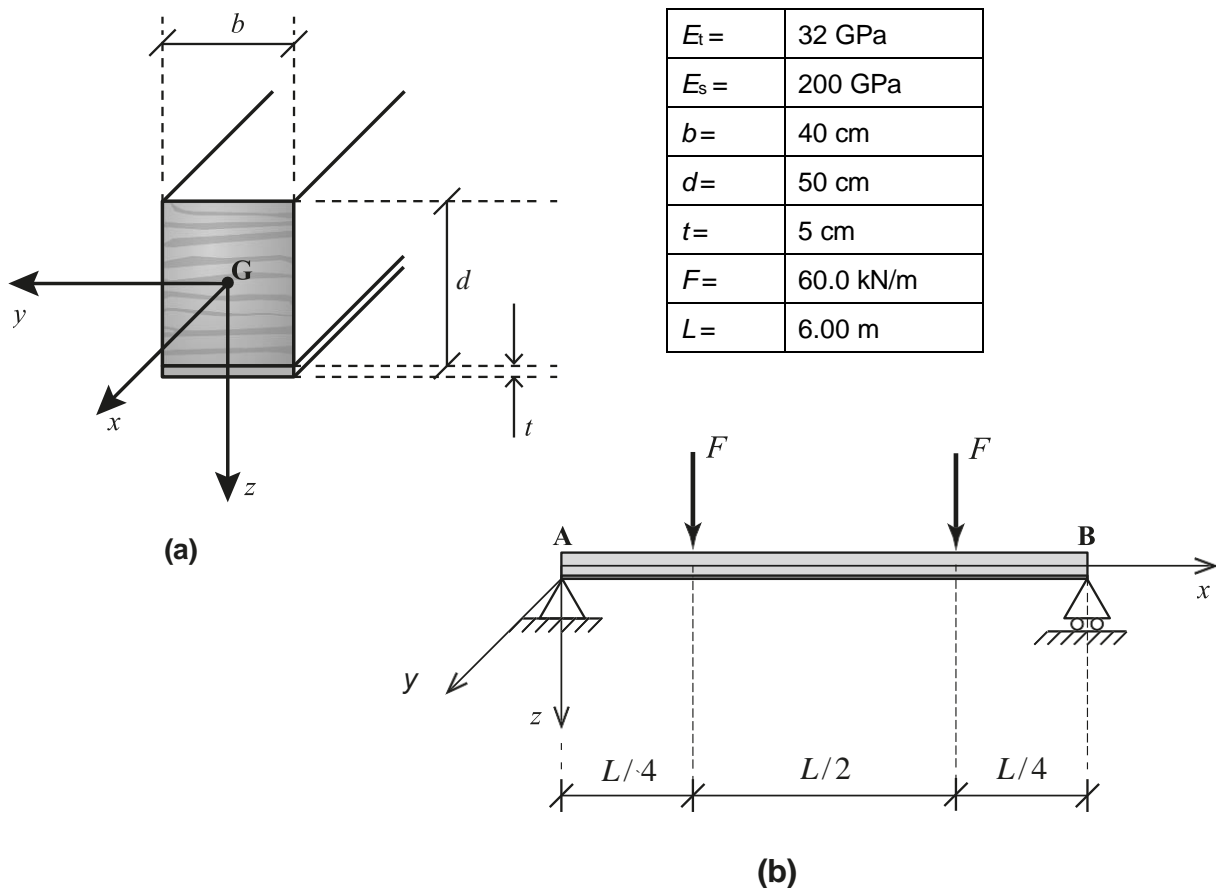

Figure Q6 – (a) Steel-timber composite cross section and (b) Simply supported beam.
6. A timber cross-section ( $E_t = 32 \text{ GPa}$ ),  $b = 40 \text{ cm}$  wide and  $d = 50 \text{ cm}$  deep, is reinforced by a single steel plate ( $E_s = 200 \text{ GPa}$ ),  $t = 5 \text{ cm}$  thick, firmly bonded to the lower side of the timber (see Figure Q6(a)).
The resulting steel-timber composite section is used to fabricate a simply supported beam,  $L = 6.00 \text{ m}$  long. The beam is loaded with a pair of point loads  $F = 60.0 \text{ kN}$ , applied at a distance  $L/4$  to the beam's ends (see Figure Q6(b)).
- (a) The position of the centroid of the composite cross-section of Figure Q6(a). [10 marks]
- (c) The maximum values of the direct stress  $\sigma$  in the timber and steel, clearly indicating whether they occur in tension or compression for the load conditions specified in Figure Q6(b). [8 marks]